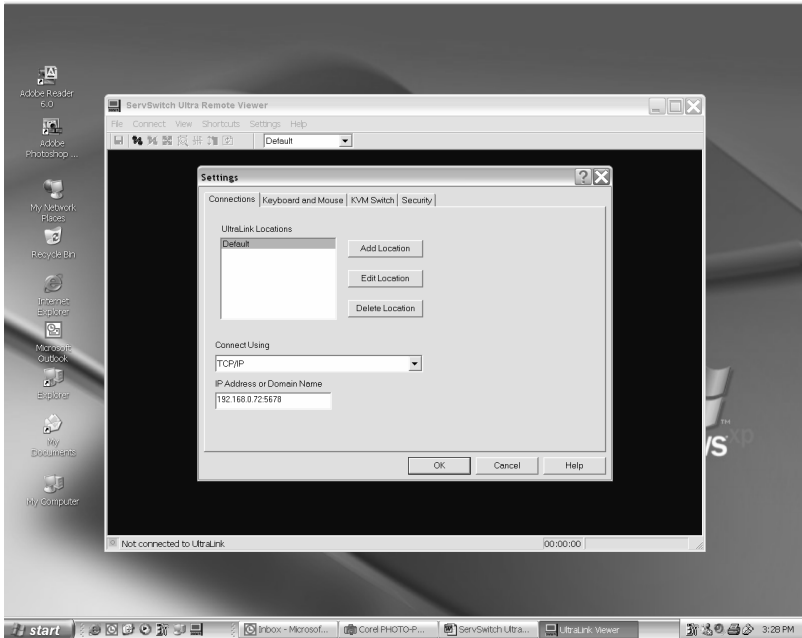

Figure 1.4 Change default name
- Click on the “Settings”, then the “Connections” tab and use “Edit Location” to change “Default” to a name of your choosing (Figure 1.4)